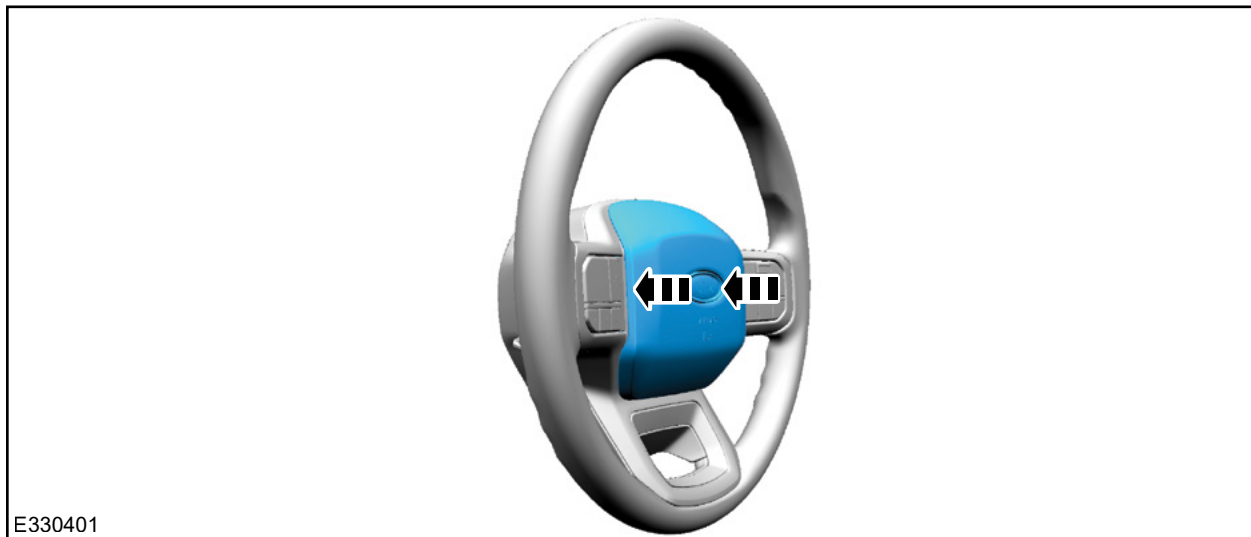

FIGURE 25
3. Connect the airbag electrical connectors. See Figure 25.